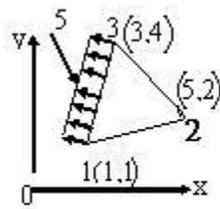

Fig. 2
- b) Using the isoparametric element, find the Jacobian and inverse of Jacobian matrix for the element shown in Fig.2, 3(a) & 3(b) for the following cases.